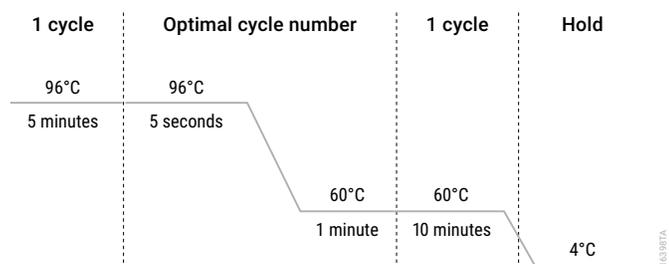

Figure 2. Thermal cycling protocol for the ProFlex® PCR System.
2. Select and run the recommended protocol, which is provided below and in Figure 2. The total cycling time is approximately 1 hour.